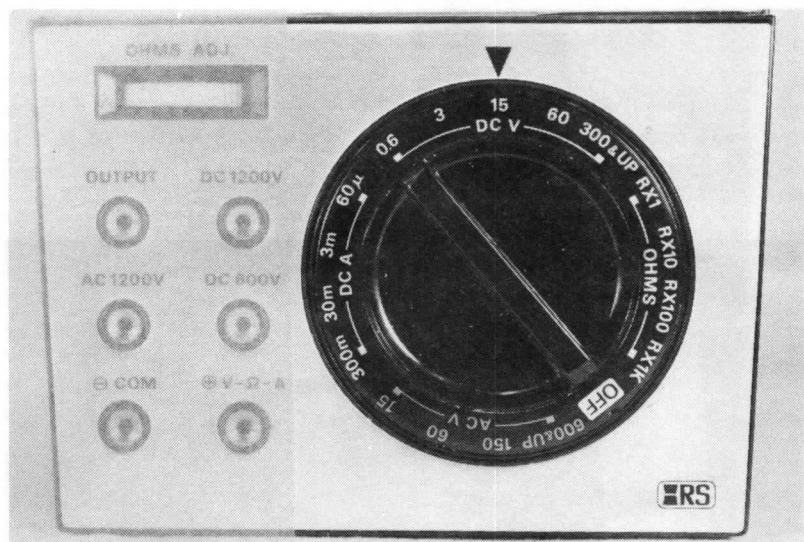

Figure 2-3. The range switch.
2. To the right of the jacks is the range switch (Figure 2-3). This switch selects the function of the meter—DC voltmeter, AC voltmeter, DC milliammeter or ohmmeter. It also selects the range of these functions. Notice that on the DCV (DC voltage) portion of the switch there are full-scale ranges of 0.6, 3, 15, 60, and 300 and up. By full-scale range we